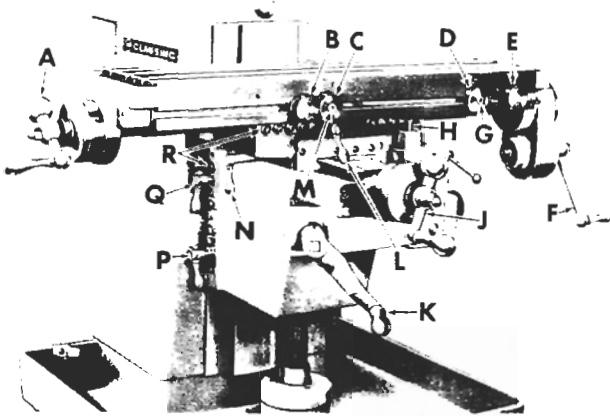

Figure 7
Vertical Table Travel: Before moving table, unlock screws (P and Q, fig. 7). Crank (K) controls raising and lowering of table.
1. Loosen the gib screw lock nuts (R, fig. 7).